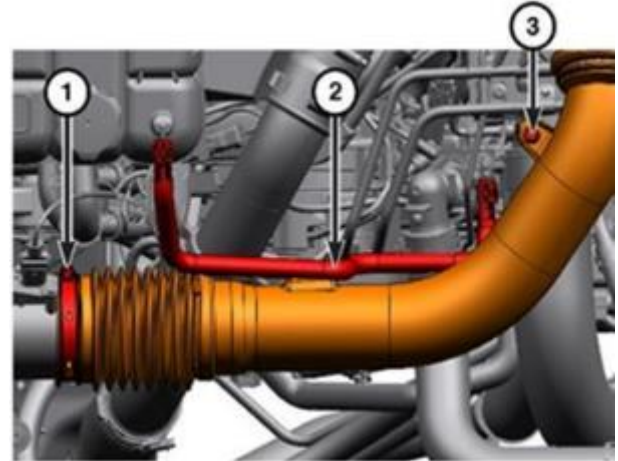

Figure 146 – Clean Air Hose
5. Loosen the clamp (1) and disconnect the clean air hose (Figure 146).
6. Detach the coolant hose retainer (2) from the clean air hose (Figure 146).
7. Remove the bolt (3) securing the clean air hose (Figure 146).